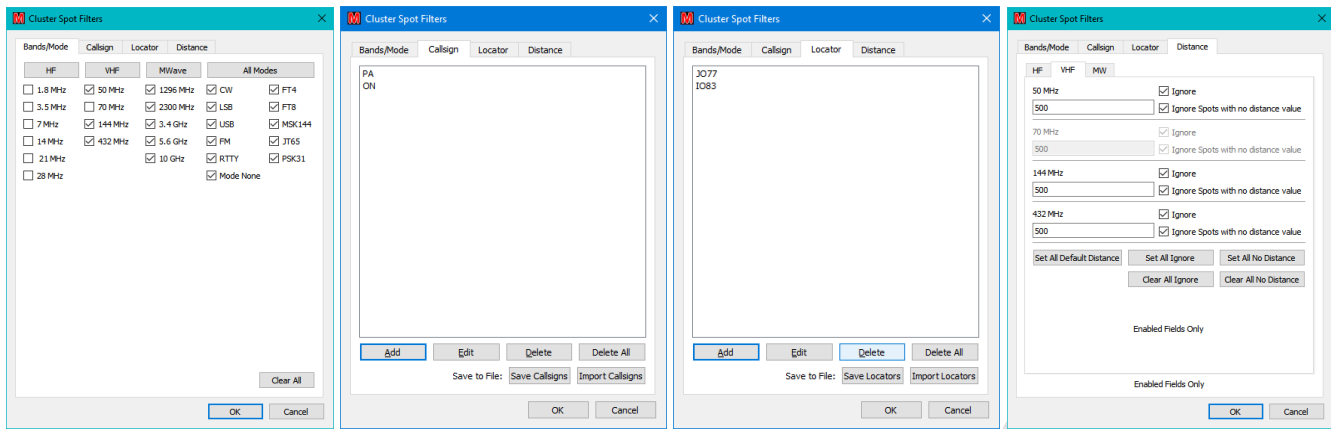

Figure 165 – Setting up filters
The content of the display can be controlled by clicking the “**Filters**” button and adjusting the Band/Mode of interest or the callsigns/locators to be watched and the distance constraints (see Figure 165).
The Distance filters further restrict the spots displayed on the basis of the specified maximum ranges¹²⁸. Note in Figure 165 (4) that the 70MHz box is disabled because 70MHz is not selected in in Figure 165 (1).